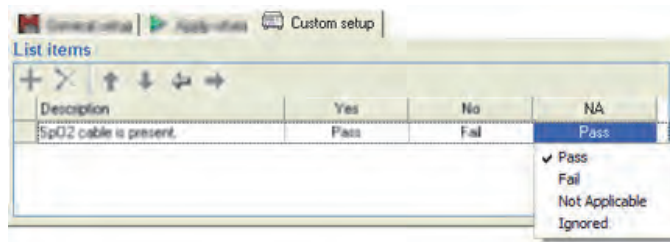

Figure 3-33. Checklist Option Status Menu
- To set the status of an option, click on the cell below the option name you want to change. In Figure 3-33, the status for the **NA** option is being changed to Not Applicable.